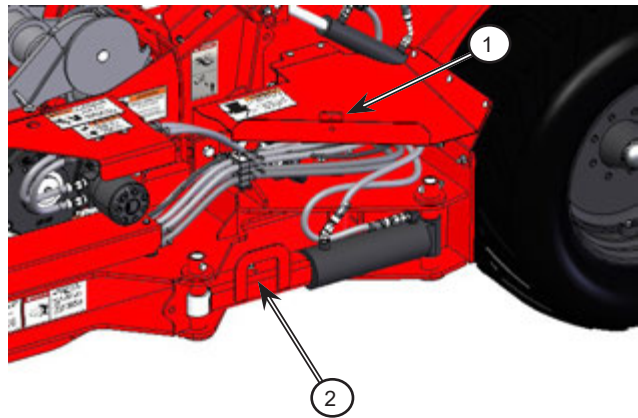

Figure 7.6: Install the hitch transport lock
6. Remove the hitch transport lock from the storage location on the hitch hose guard (1) and install the lock on hitch cylinder rod (2); see *Figure 7.6*.